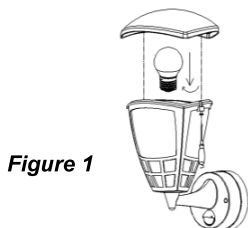

Figure 1
- Install the E27 Bulb to the sensor lamp and install back the upper cover with screws (refer to the Figure 1).